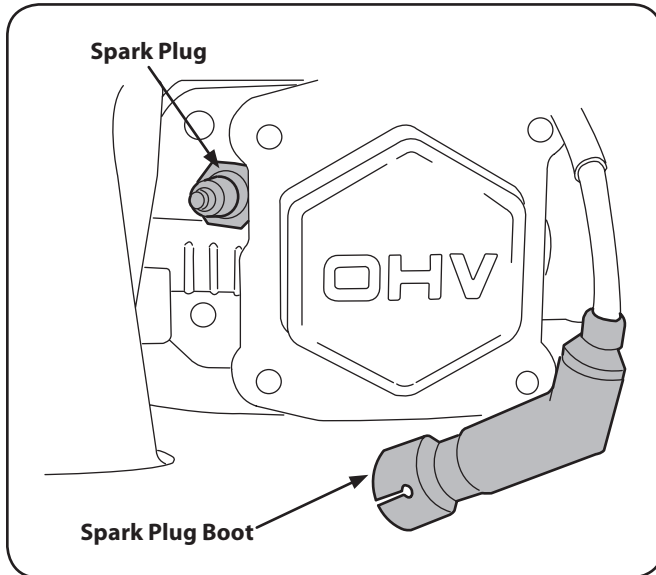

Figure 10-3
1. Remove the spark plug boot and use a spark plug wrench to remove the plug. See Fig. 10-3.